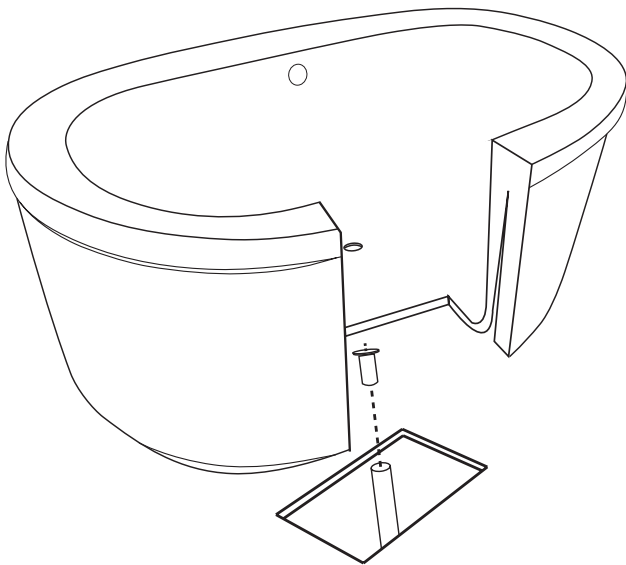

Figure 7
3. Carefully set tub into position (figure 7) and connect the drain hardware (previously installed). Finish the installation of the tail-piece installation.